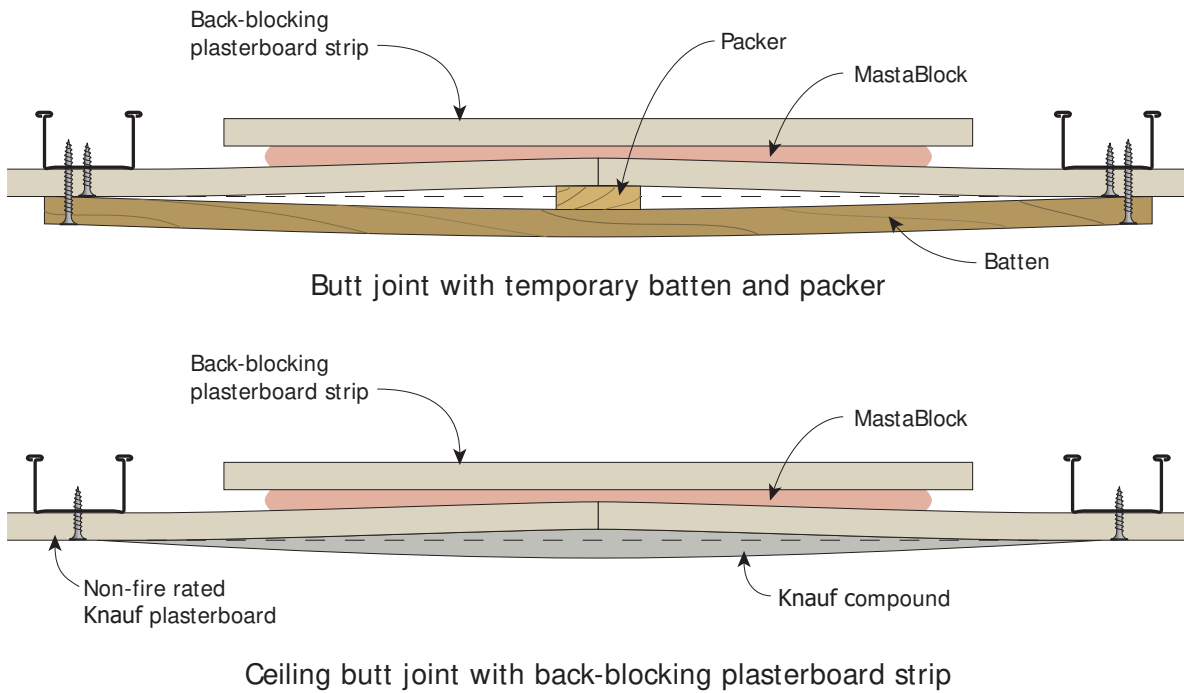

FIGURE 54 Creating a Recess at a Butt Joint – Elevation
- Create a recess by using either Knauf back-blocking battens as shown in Figure 3 or packers as shown in Figure 54 and 55